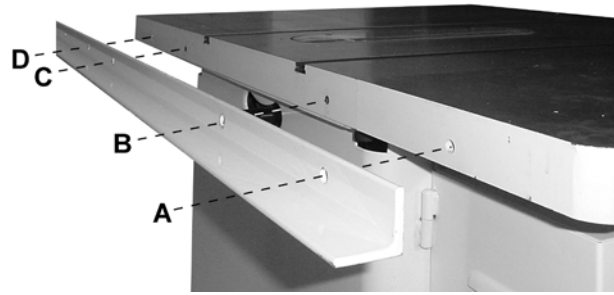
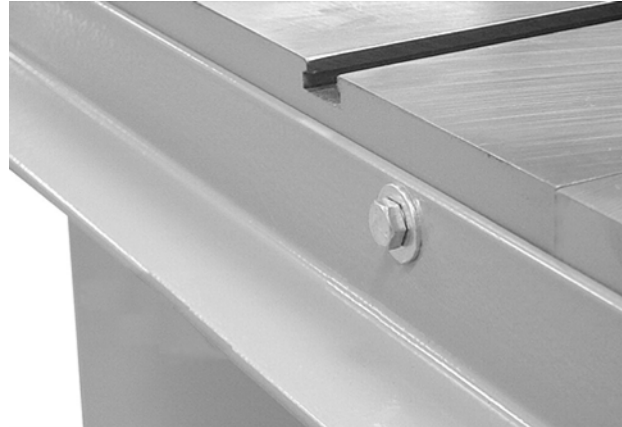
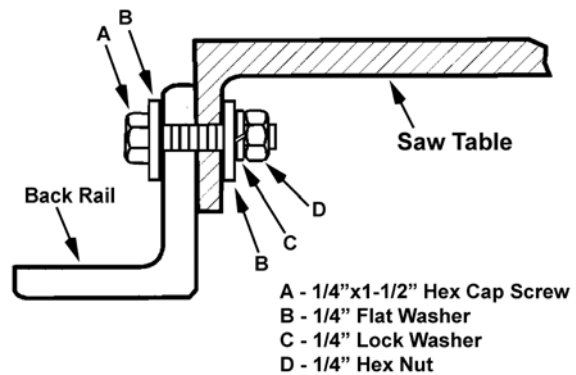

Figure 4
Figure 5
Figure 6
2. Align the holes in the *back rail* to the holes in the table top, as shown in Figure 4.
3. Secure the back rail to the pre-tapped holes in the saw table (B, C, Fig. 4) with two 5/16 x 3/4 hex cap screws and two 5/16 flat washers, as shown in Figure 5. Tighten screws securely with a 1/2" wrench.
4. Secure the back rail at A and D (in Figure 4) to each *extension wing* with a 1/4 x 1-1/2 hex cap screw, two 1/4" flat washers, a 1/4" lock washer, and a 1/4" hex nut as shown in Figure 6.